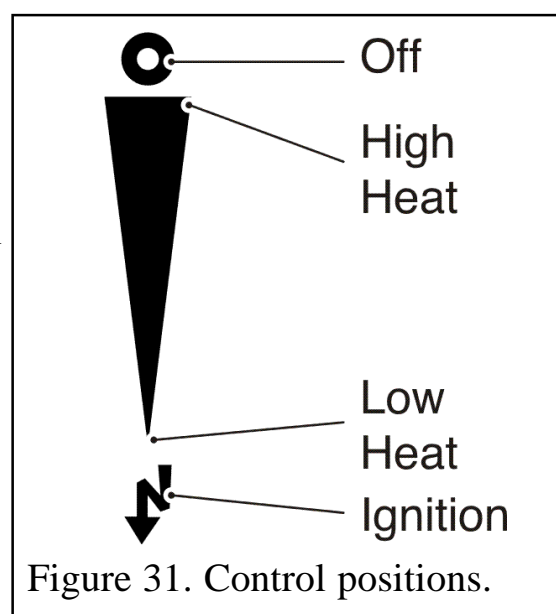

Figure 31. Control positions.
The control position markings on the fascia are shown in figure 31.
1. Gradually slide the button up to increase the burner setting. The burner should be at its maximum setting at the high heat position shown in figure 31. You should feel a check to the button movement at this position.